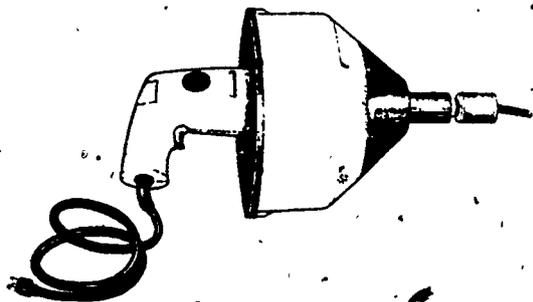
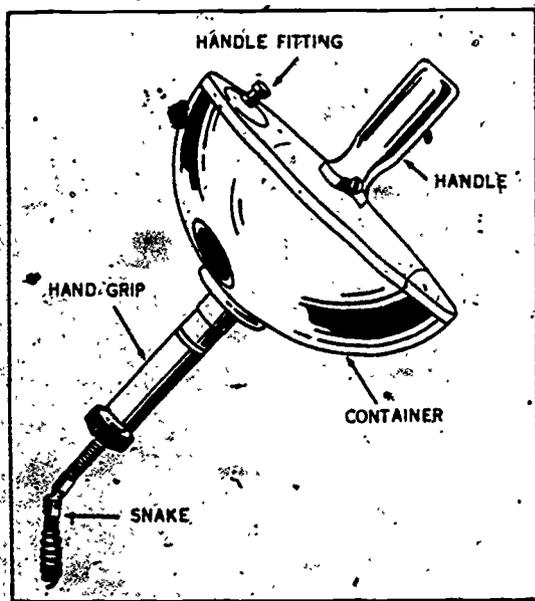

Figure 5-16. Power-driven auger for sink and lavatory drains
Figure 5-15. Top sink snake.
*Using a sink snake to clear drains.* If you cannot remove the stoppage from the drain with a vacuum plunger, you may have to use a sink or sewer snake to dislodge the stoppage. These snakes are constructed of coiled, tempered wire which is extremely flexible. They are generally 15 to 25 feet long, with a diameter of approximately 1/4 inch. Each snake is equipped with a type of crank that is used to rotate the snake as it is pushed into a clogged drain. As you can see in figure 5-15, a sink snake is housed in a toplike container. This unit is also called a top sewer snake. Figure 5-16 illustrates a power-driven auger used for cleaning lavatory and sink drains. When you use this snake, the top is rotated as the snake is pushed into the drain. In some cases, you may have to remove the trap and elbow from the drain before the sewer snake is pushed into it. Push the snake down the drain and rotate it; then feed it further and rotate it again. Continue this operation until you pierce the obstruction. Usually it is